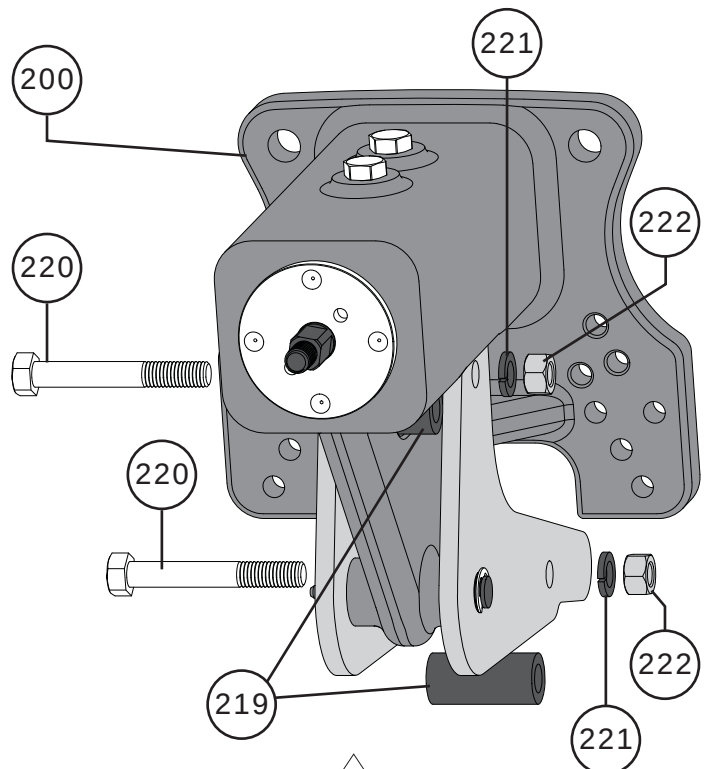

Figure 54 SMHW Spacer Removal
- 1 Remove the hex nuts (Key 222), lockwashers (Key 221), cap screws (Key 220), and spacers (Key 219). Refer to Figure 54.